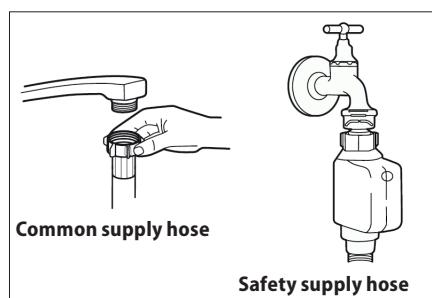

Fig. 17
- Connect the inlet hose to the water supply according to Fig. 17.